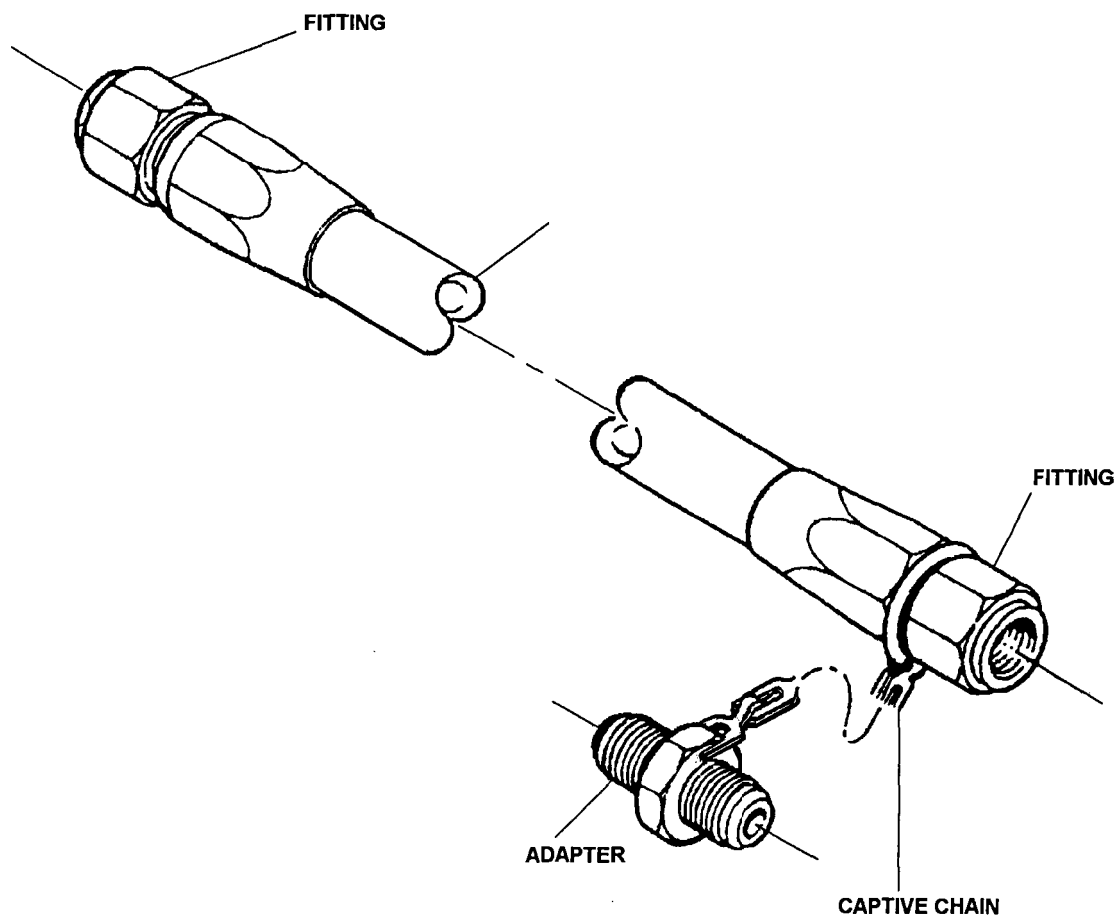

Figure 4-53. Repair of Auxiliary Fuel Line
- a. Remove adapter, captive chain and fittings from hose (Figure 4-53).